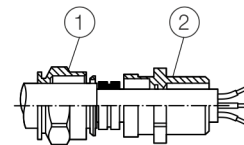

Figure 2: Tightening the cable glands
IP rating IP66 / 67 is only achieved by installing the black neoprene sealing ring between the cable gland and the housing and by observing the tightening torque of 3.6 Nm (**Figure 2**, item ②).
5. Tighten the cable gland until the cable is firmly enclosed by the sealing ring (**Figure 2**, item ①). Do not tighten more than 1.5-times of the specified torque on the housing (see assembly instructions for cable gland)!